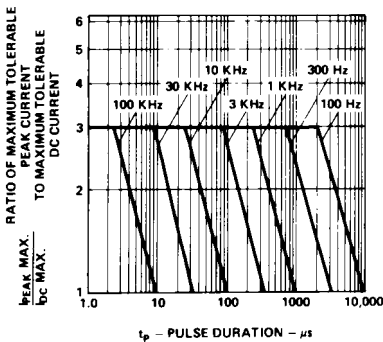

Figure 5. Maximum Tolerable Peak Current vs. Pulse Duration. (I_{DC} MAX as per MAX Ratings).
1. See Figure 5 (Red/Orange), 10 (Yellow), or 15 (Green) to establish pulsed operating conditions.